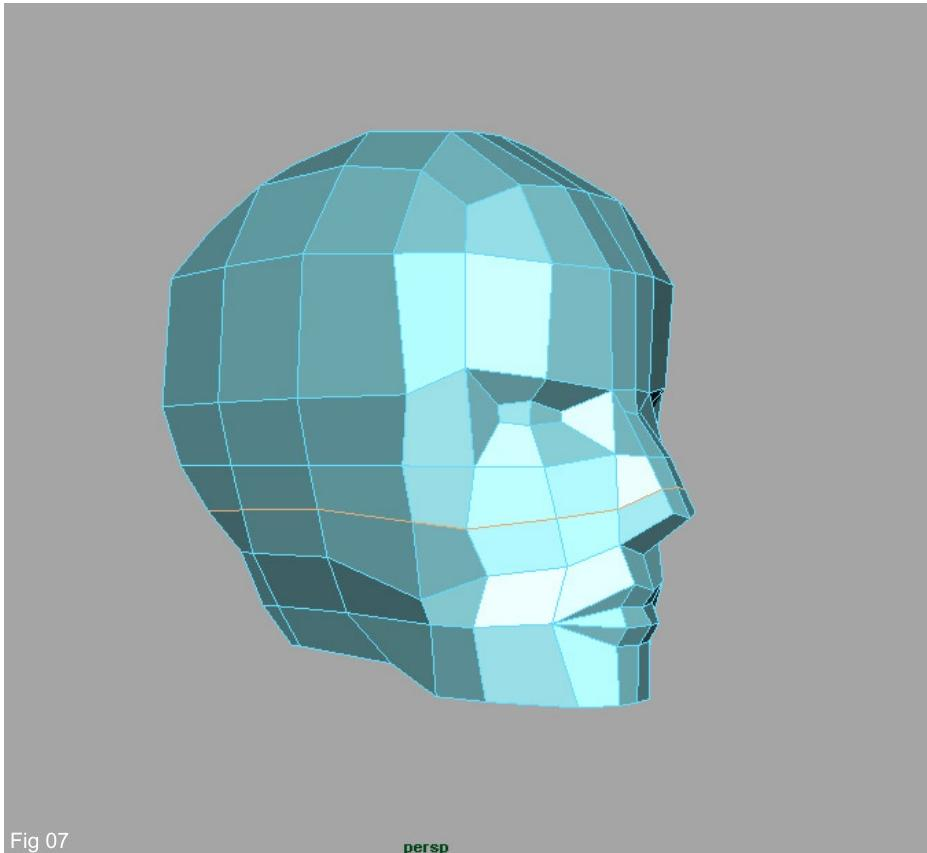

Fig 07
7. Cut another series of edges around the circumference on the entire mesh with the Split Poly Tool. Shape it into the mesh once it's been created. Now that we've got a start on all the basic features, really pay attention to the form and shape of the head. This is a low poly character, so you want every polygon pulling its weight. Try to get a good solid dynamic shape to the head. It's also never a bad idea to check out references of how the skull and muscles of the head form either. (Fig 07)